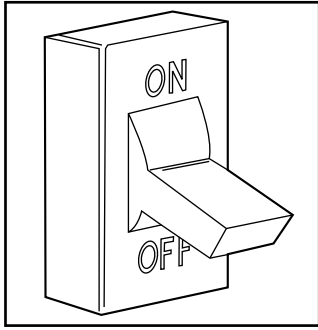

Fig. 17 - Turn Off Electrical Supply
3. Turn off electrical supply to the furnace. (See Fig. 17.)